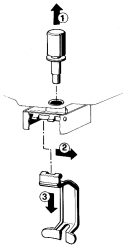

figure 4
- 8 - **Gravity faucet:** extract the piston (1) and then remove the dispensing handle (2-3) (see figure 4).